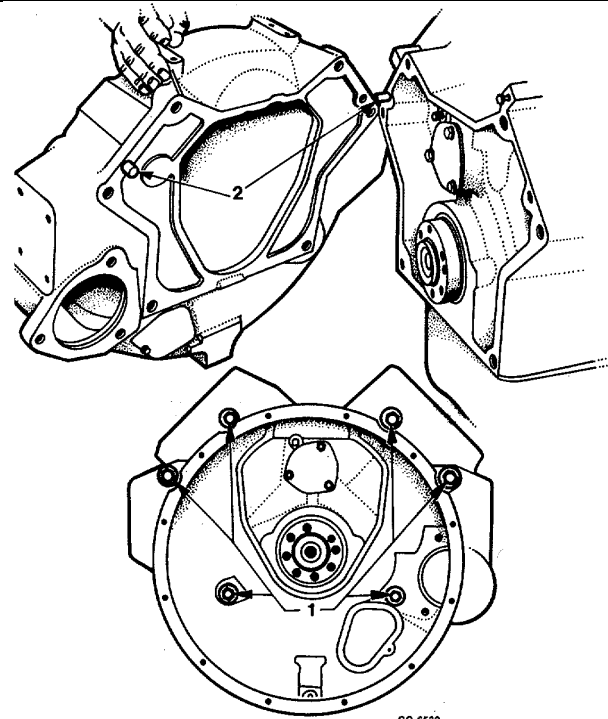

Fig. 67 Flywheel Housing Mounting Details
67. Remove six flywheel housing mounting bolts and flat washers and remove flywheel housing (Figure 67).